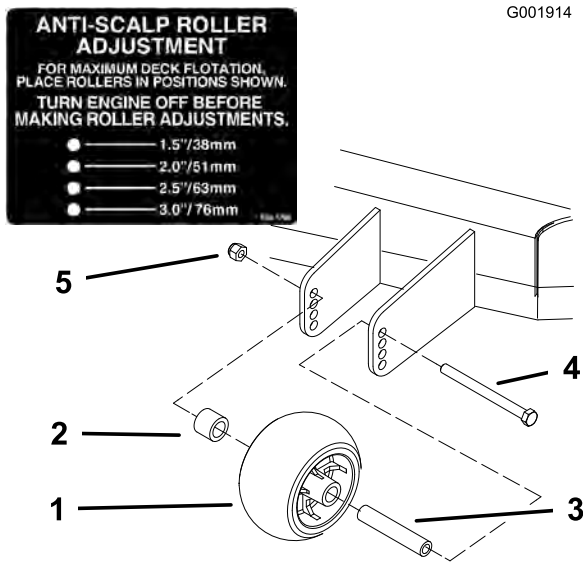
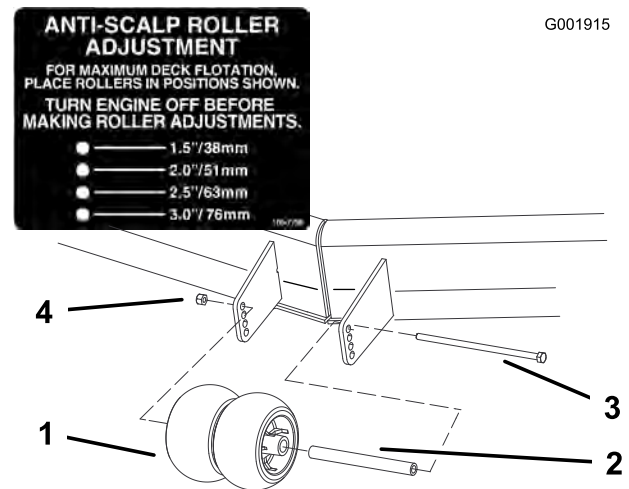

Figure 19
Figure 20
3. After adjusting the height-of-cut, adjust the rollers by removing the flange nut, bushing, spacer, and bolt (Figure 19 , Figure 20 and Figure 46).
Note: The two middle rollers will not have a spacer (Figure 20).
5. Install the flange nut bushing, spacer, and bolt. Torque to 40-45 ft-lb (54-61 N-m) (Figure 19 , Figure 20 and Figure 46).